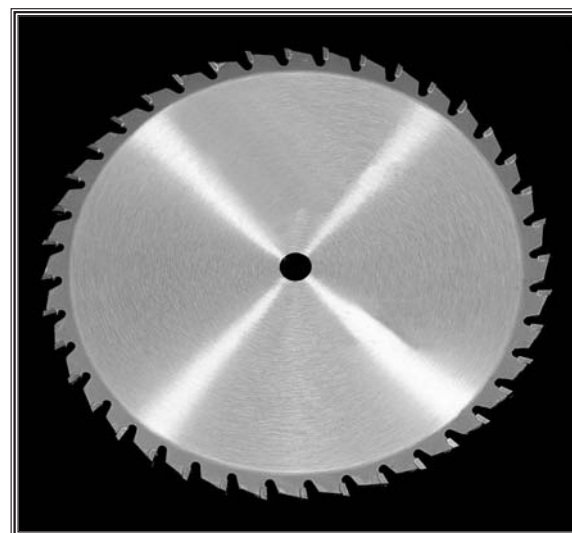

Figure 46. Crosscutting blade.
- **Figure 46** shows an example of a crosscutting blade. This type of blade is designed for quick, smooth action when making cuts across the grain. Drawbacks to this type of blade are buildup of heat, slower feed rates and premature wear of the blade because the greater number of teeth creates more friction.